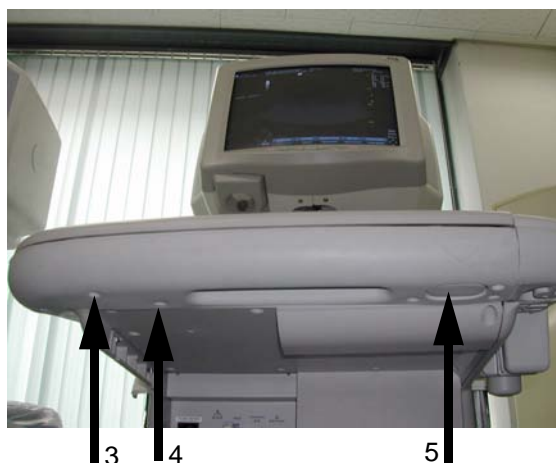

Figure 8-18 Unscrew 3 screws from the bottom
- 3.) Unscrew three screws (3-5) from the bottom of the keyboard. Refer to Figure 8-18.